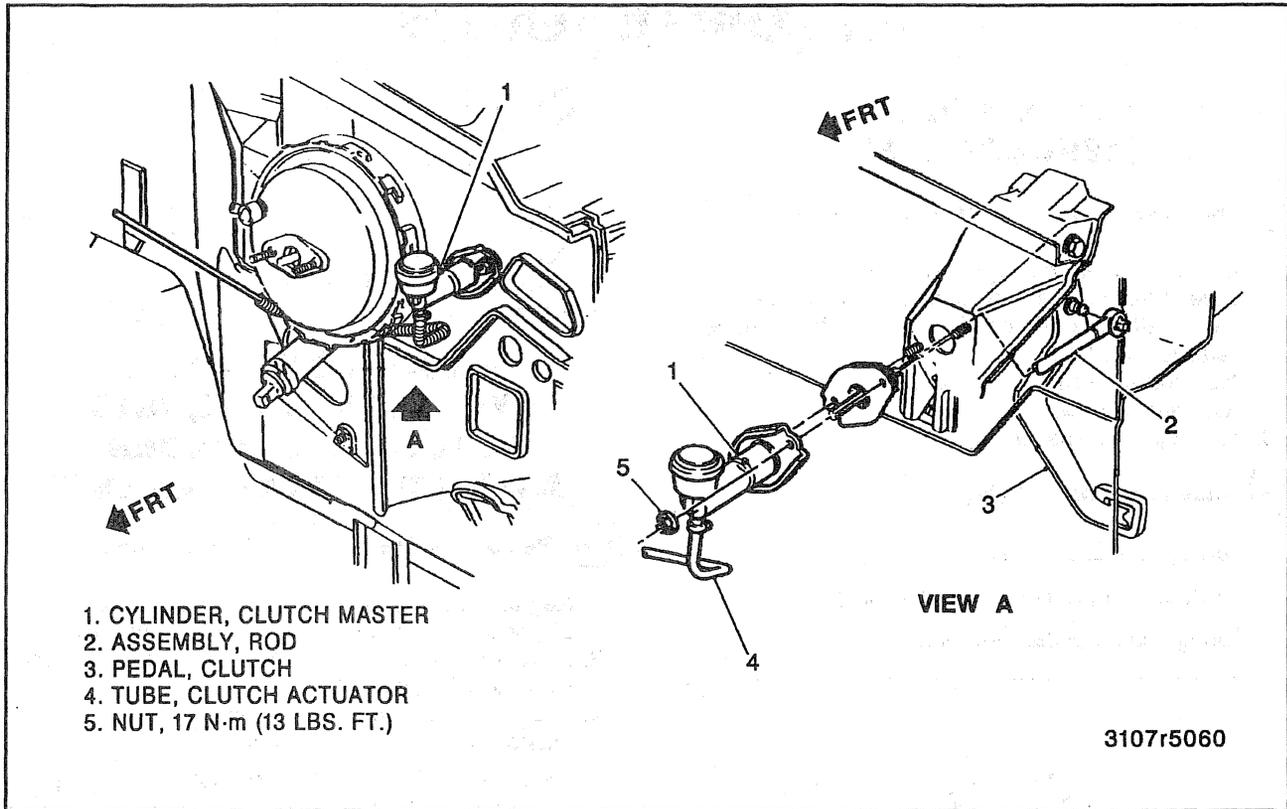

Figure 2—Master Cylinder and Reservoir
**↔ Remove or Disconnect (Figures 2 and 3)**
**↔ Install or Connect (Figures 2 and 3)**
**Bleed (Figures 2 and 3)**